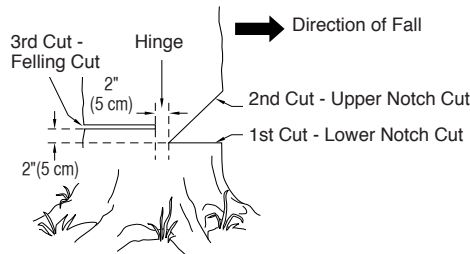

Figure 10 - Felling A Tree
A properly placed felling notch will determine direction tree will fall. Place felling notch on side of tree in direction you want tree to fall (see Figure 10). Follow directions below to create a felling notch.
1. Make lower notch cut as close to ground as possible. Hold saw so guide bar is horizontal. Cut 1/3 the diameter of tree trunk (see Figure 10). **Note:** Always make this horizontal lower notch cut first. If you make this cut second, tree can pinch chain or guide bar.
2. Start upper notch cut the same distance above first cut as first cut is deep. **Example:** If lower notch cut is eight inches deep, start upper notch cut eight inches above it. Cut downward at 45° angle. The upper notch cut should meet end of lower notch cut (see Figure 10).
1. Make felling cut two inches higher than lower notch cut and on opposite side of tree (see Figure 10). Keep felling cut parallel to lower notch cut.
⚠ WARNING: Do not cut all the way through tree. Leave about two inches of tree diameter uncut directly behind felling notch (see Figure 10). This uncut portion acts as a hinge. The hinge helps keep tree from twisting and falling in wrong direction.